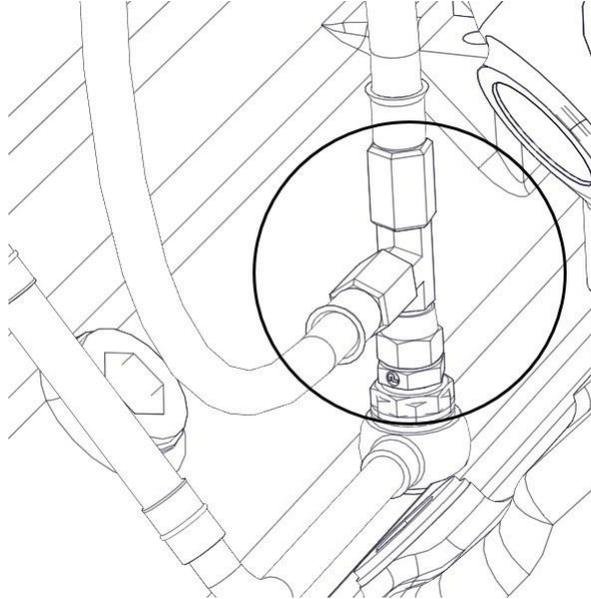

Figure 22. Turbocharger Oil Supply lines
1. Remove both turbo oil supply lines from the oil inlet valve. (Refer to Figure 22.)